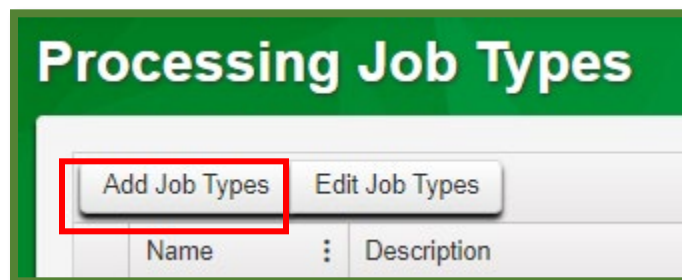

Figure 2: Add Job Types button
- Once on the Processing Job Types grid, click the Add Job Types button - **see Figure 2.**